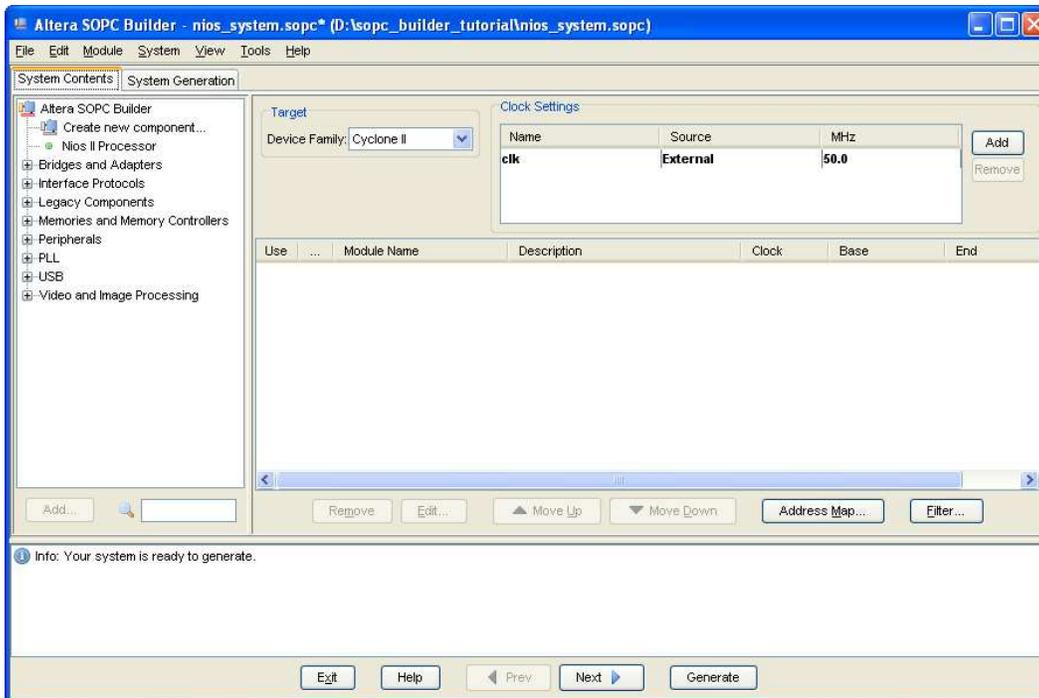
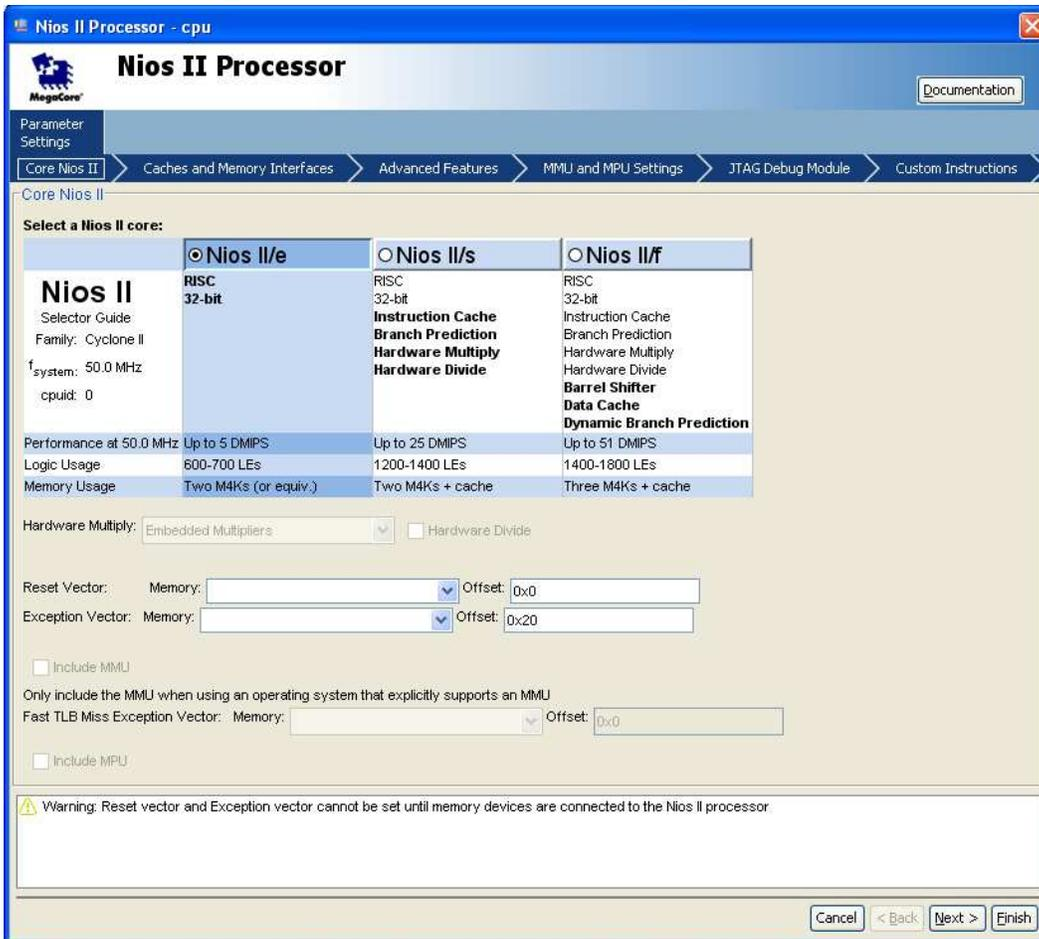
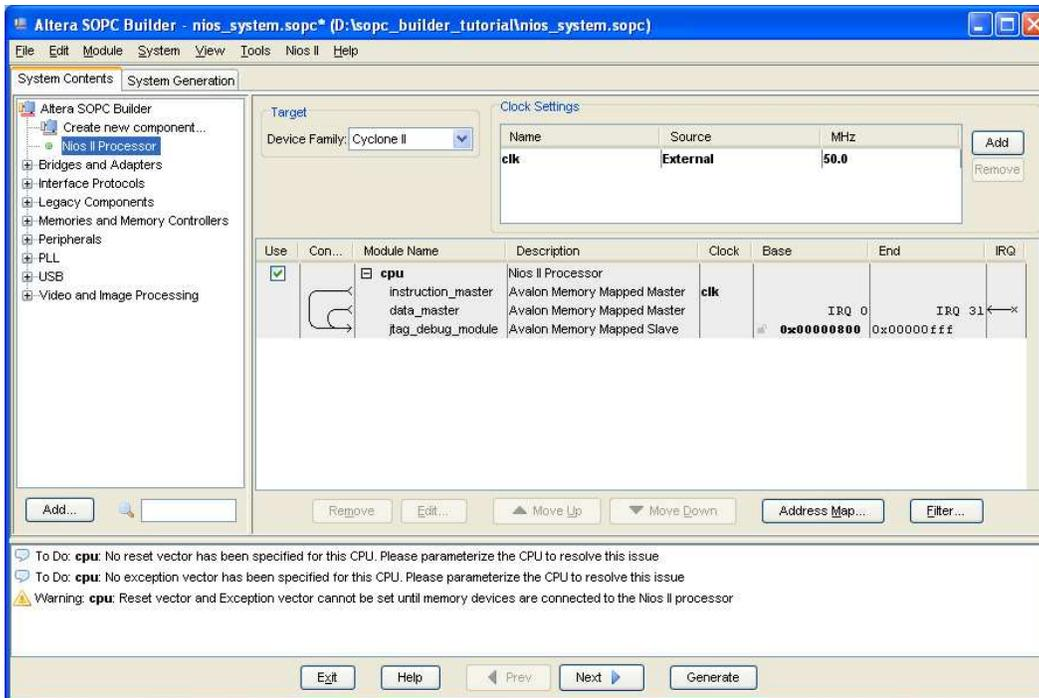

Figure 5. The System Contents tab window.
Figure 6. Create a Nios II processor.
Figure 7. The defined processor.
2. Select Tools > SOPC Builder, which leads to the pop-up box in Figure 4. Enter *nios_system* as the system name; this will be the name of the system that the SOPC Builder will generate. Choose Verilog as the target HDL, in which the system module will be specified. Click OK to reach the window in Figure 5.
3. Figure 5 displays the System Contents tab of the SOPC Builder, which is used to add components to the system and configure the selected components to meet the design requirements. The available components are listed on the left side of the window. Before choosing our components, examine the area in the figure labeled Target. Check the setting for the Device Family and ensure that Cyclone II is selected.
4. The Nios II processor runs under the control of a clock. For this tutorial we will make use of the 50-MHz clock that is provided on the DE2 board. As shown in Figure 5, it is possible to specify the names and frequency of clock signals in the SOPC Builder display. If not already included in this list, specify a clock named *clk* with the source designated as External and the frequency set to 50.0 MHz.
- On the left side of the window in Figure 5 select Nios II Processor and click Add, which leads to the window in Figure 6.
- Choose Nios II/e which is the simplest version of the processor. Click Finish to return to the window in Figure 5, which now shows the Nios II processor specified as indicated in Figure 7. There may be some warnings or error messages displayed in the SOPC Builder Messages window (at the bottom of the screen), because some parameters have not yet been specified. Ignore these messages as we will provide the necessary data later.